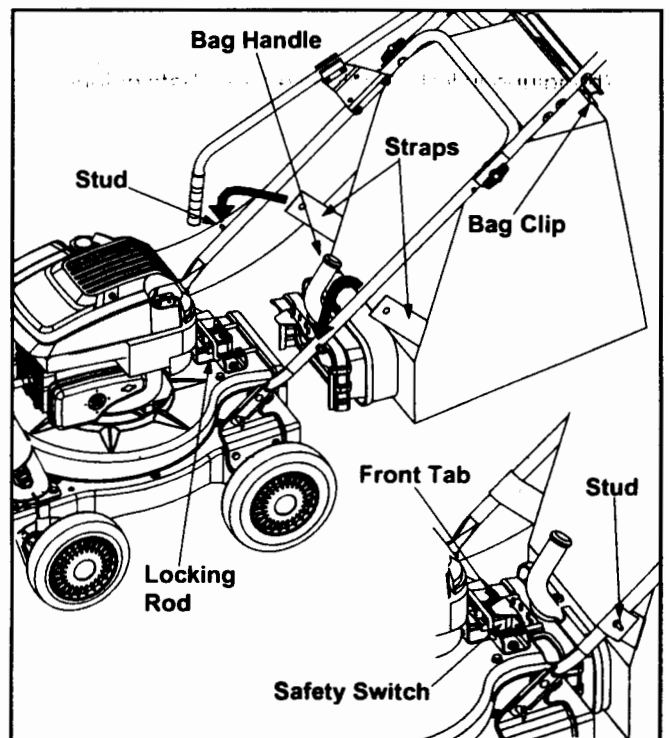

Figure 4
- Grasp bag handle with one hand and slide locking rod on mounting bracket with other hand toward engine. Use the end of mounting bracket as leverage when sliding the locking rod. See Figure 4.
NOTE: The safety switch button attached to the mounting bracket must be fully depressed by the front tab on the bag handle when securing the bag or the engine will not start. See Figure 4.
- Remove bag from rim of the discharge opening. Refer to Figure 4.